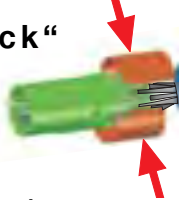

Fig. 15.6 Fit plug insert
3. Push the insulating sleeve (10) on to the coupler insert(12) (Fig. 15.6).
4. Insert the coupler insert (12) with guide lug into the keyway of the coupler sleeve (13) (Fig. 15.6).